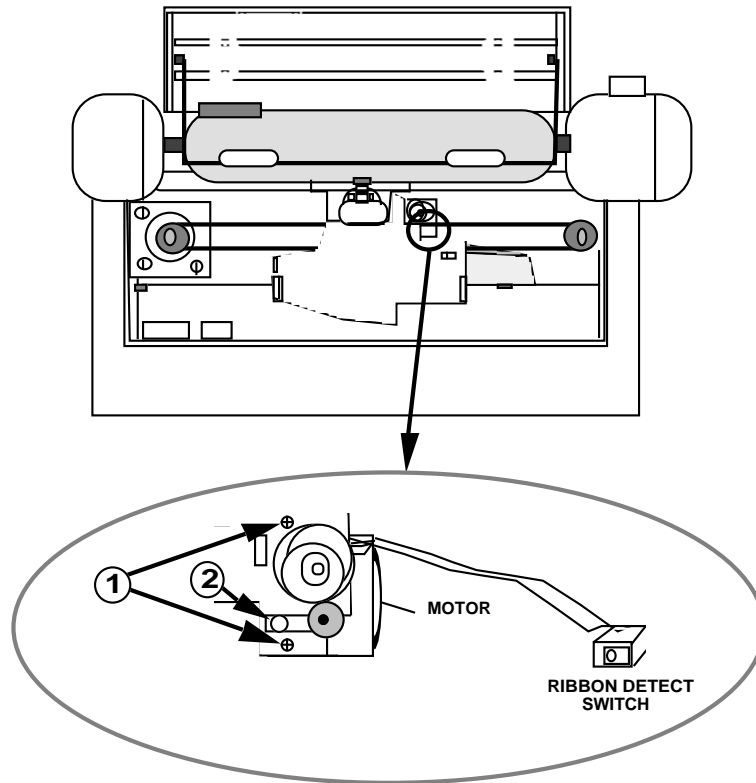

FIGURE 13
2. Remove the two screws that hold the motor in place (Figure 13, #1).
3. Position the jeweler's flathead screwdriver behind the small black plastic extension as shown in Figure 13, #2. Gently pry the motor out. Note the position of the connector and the wires on the ribbon motor assembly.
1. Slide the ribbon motor into position (Figure 13).
2. Replace the two screws that hold the motor in place (Figure 13, #1).